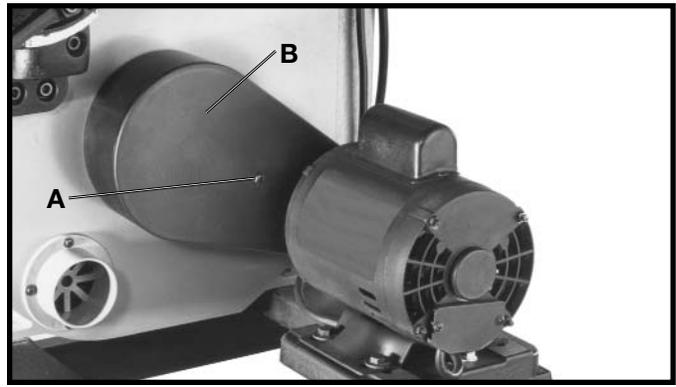

Fig. 29
1. Remove screw (A) Fig. 29, and belt and pulley cover (B).